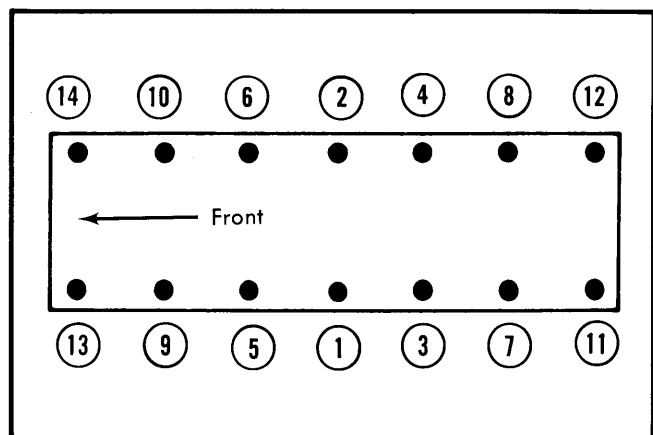

Fig. 1 Cylinder Head Tightening Sequence
3) Tighten head bolts in several steps in the sequence illustrated in Fig. 1 to final specified torque. Recheck torque after engine has been running for several minutes.